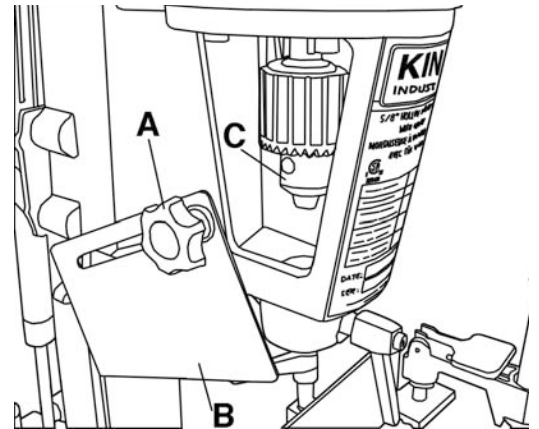

Figure 15
Loosen the two lock knobs (A) Fig.15 on both sides of the head and lower the covers (B) to expose the chuck (C).